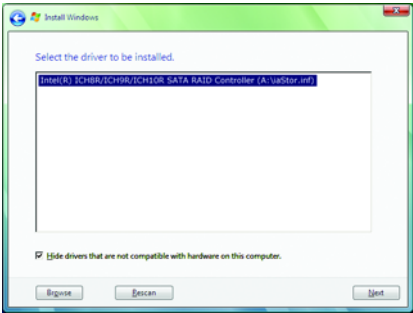

Figure 10
When a screen as shown in Figure 10 appears, select **Intel(R) ICH8R/ICH9R/ICH10R SATA RAID Controller** ^(Note) and press **Next**.
(Note) The item displayed in Figure 10 will be shown as **Intel(R) ICH10R SATA AHCI Controller** when the SATA controllers are set to AHCI mode.